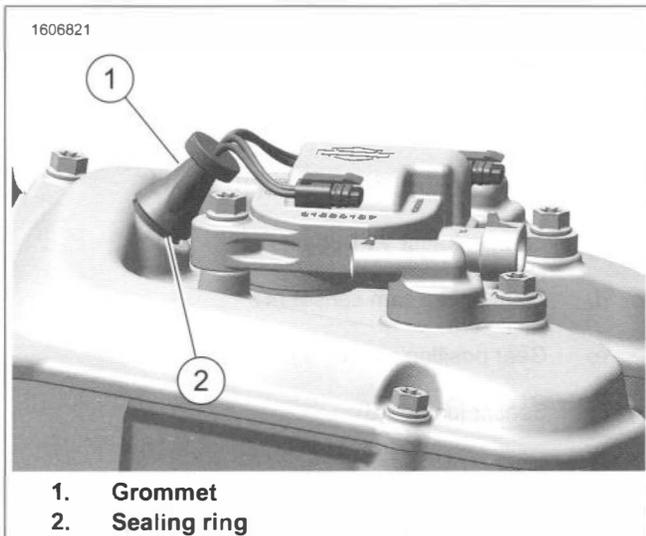

Figure 8-89. Phaser Harness Upper Grommet
- See Figure 8-89. Make sure grommet's sealing ring (2) is not visible.